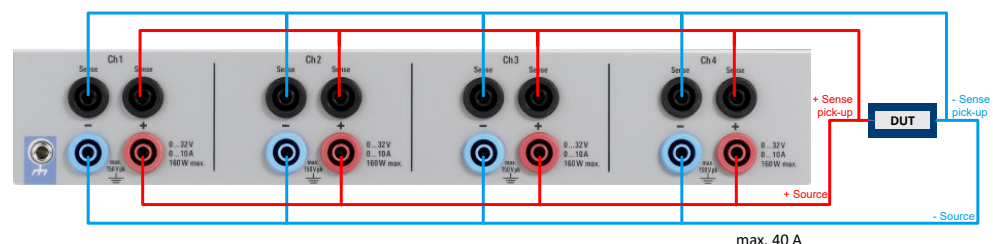

Figure 6-3: Example of a parallel connection
2. As shown in Figure 6-3, connect the [+] output connectors of all channels.
5. Similarly to the source lines, connect the sense lines to each channel in parallel, as shown in Figure 6-3.